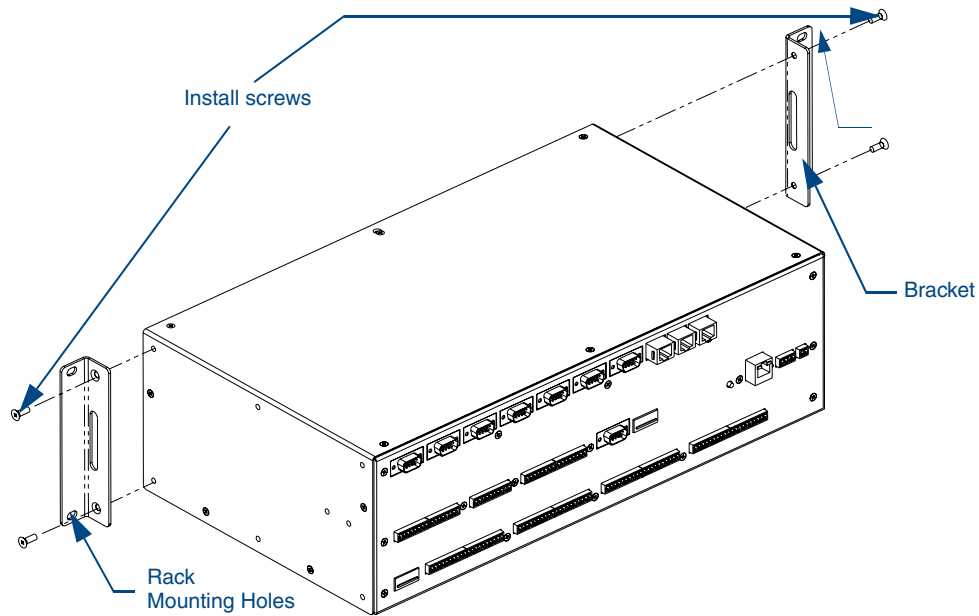

FIG. 5 Mounting Integrated Controller into an equipment rack
- Position and install the mounting brackets, as shown in FIG. 5, using the screws supplied with the unit. The mounting brackets can be rotated to accommodate your mounting needs.
5. Slide the unit into the rack until the attachment holes, along both sides, align to their corresponding locations on the mounting brackets, as shown in FIG. 5.